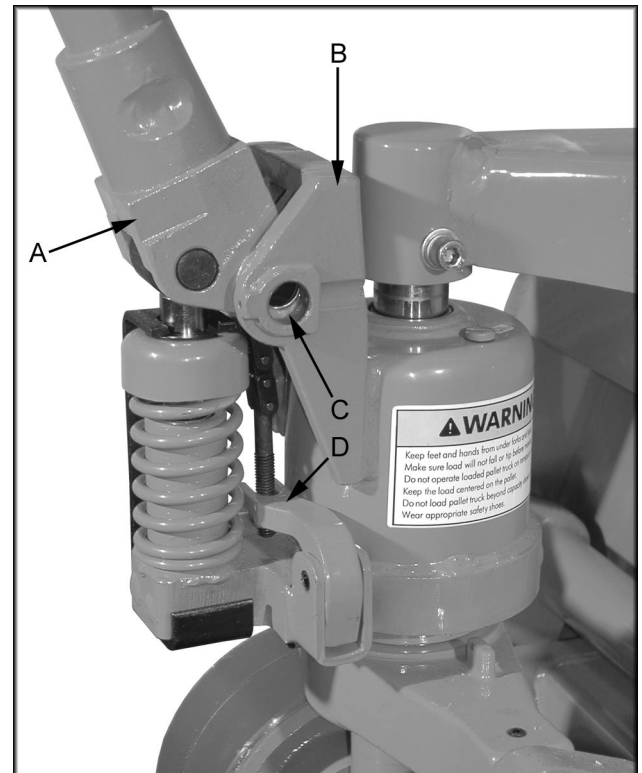

Fig. 1
1. Insert the base of the handle (A, Fig. 1) into the pump bracket (B, Fig. 1).
2. Align the holes (C, Fig. 1) at the base of the handle with the holes in the pump bracket.
3. Using a screwdriver, pry the cam (D, Fig. 1) up and slip the bolt head, under the notch in the cam. **Do not adjust the nut.**